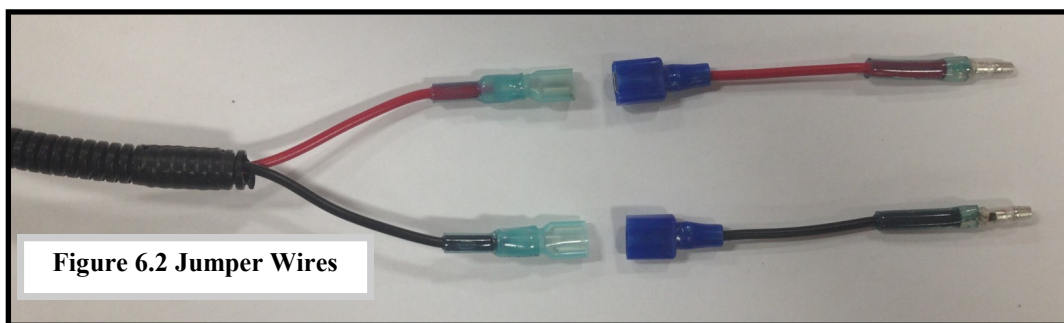

Figure 6.2 Jumper Wires
- 6.2 Connect the red jumper wire (bullet terminal & push-on terminal) and the black jumper wire (bullet terminal & push-on terminal) to the wiring harness via the push-on terminals. Match the colors of each component. (Figure 6.2)